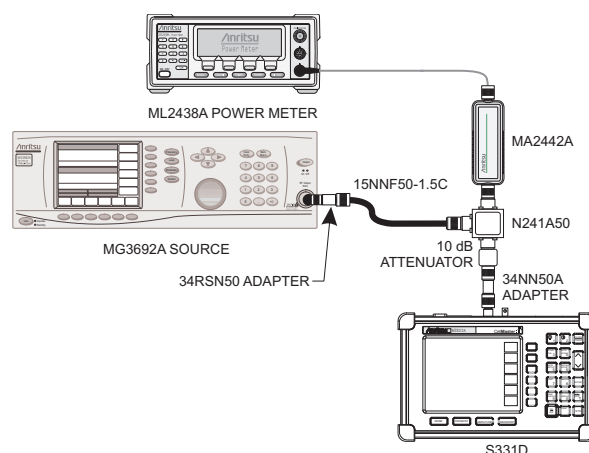

Figure 3. Power Meter Verification Setup
17. Using the power splitter, coaxial cable and adapters, connect the Site Master to the signal source and the power sensor as shown in Figure 3.